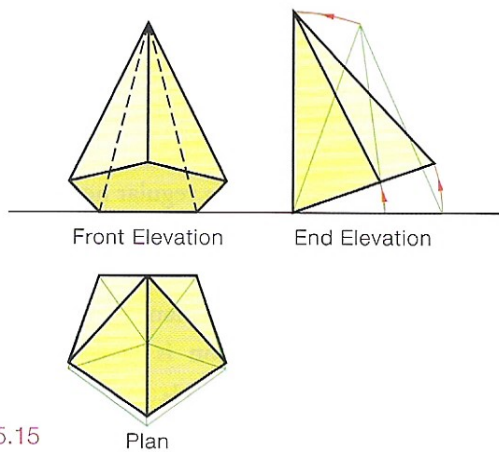

Fig. 5.15
- (1) Draw the given plan and project the end view.
- (2) In the end view, surface abc appears as an edge view.
- (3) Rotate the pyramid until surface abc is vertical.
- (4) Project the remaining views from the end view, Fig. 5.15.